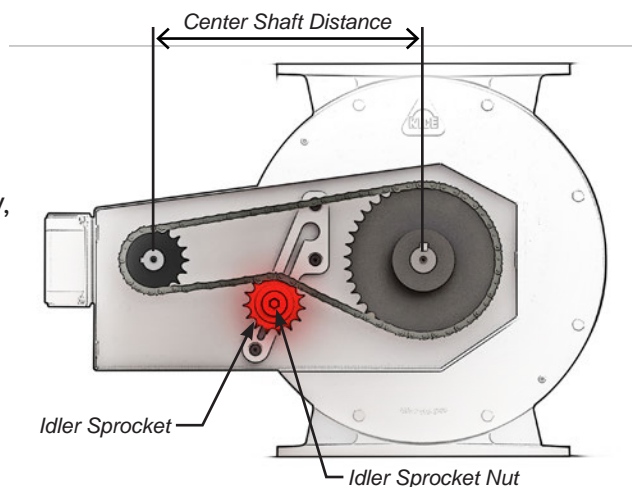

FIGURE 8
- Push idler sprocket up along the slide path to tighten chain (Figure 8).